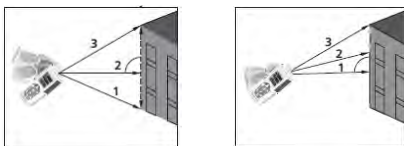

Fig. 8: Examples of indirect 3-point measurements
3. Position the instrument in the lowest point (1) of measurement (see Fig. 8) and press the  key. The result appears on the first partial display. The symbol  appears on the display with side "2" flashing
- horizontally as possible (2) (see Fig. 8) and press the  key to measure. The result appears on the second partial display. The symbol “” appears on the display with side “3” flashing
5. Position the instrument in the highest point (3) of measurement (see Fig. 8) and press the  key to measure